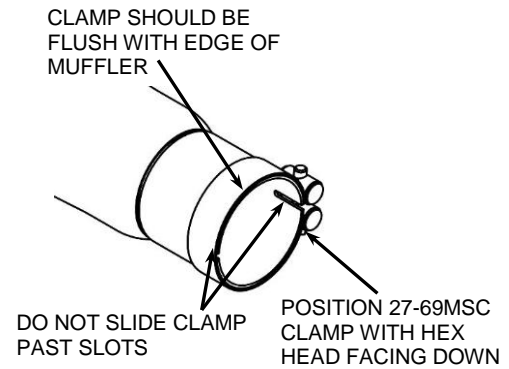

FIGURE 4
16. Position the supplied #27-69 MSC muffler clamp with hex head facing inward and down as shown in **FIGURE 4** and slide it onto the muffler inlet tube.
18. Secure the muffler assembly to the exhaust mount bracket using the (2) supplied 5/16"-18 bolts but **DO NOT TIGHTEN**.